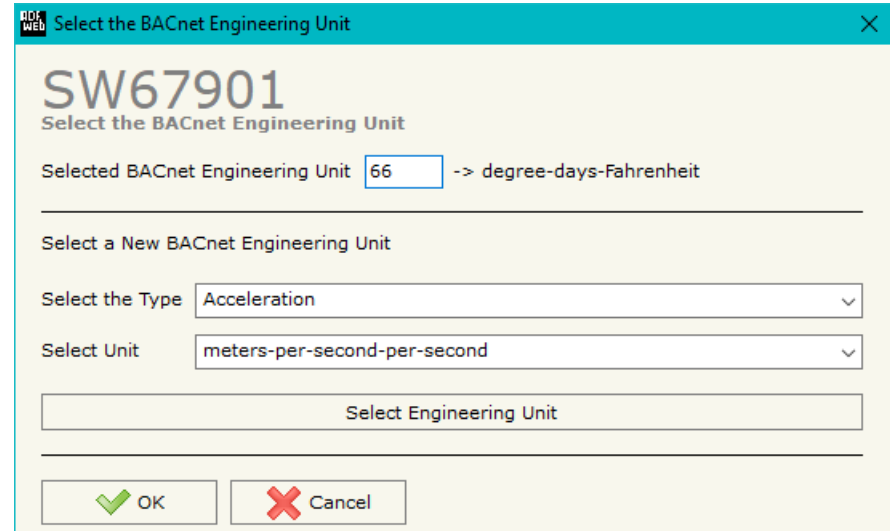

Figure 6: “Select the BACnet Engineering Unit” window
- In the field “**Eng. Unit**”, with double click the window “*Select the BACnet Engineering Unit*” appears (Fig. 6);